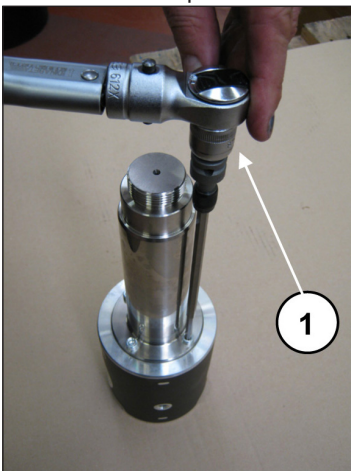

Fig. 40
Lock the piston guide in a vice with the aid of a special tool and calibrate the screws with a torque wrench (pos. ①, Fig. 40) as indicated in chapter 3.